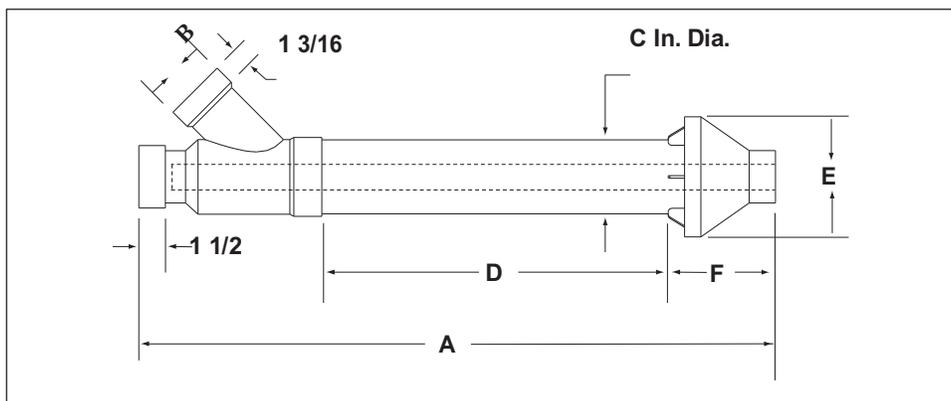
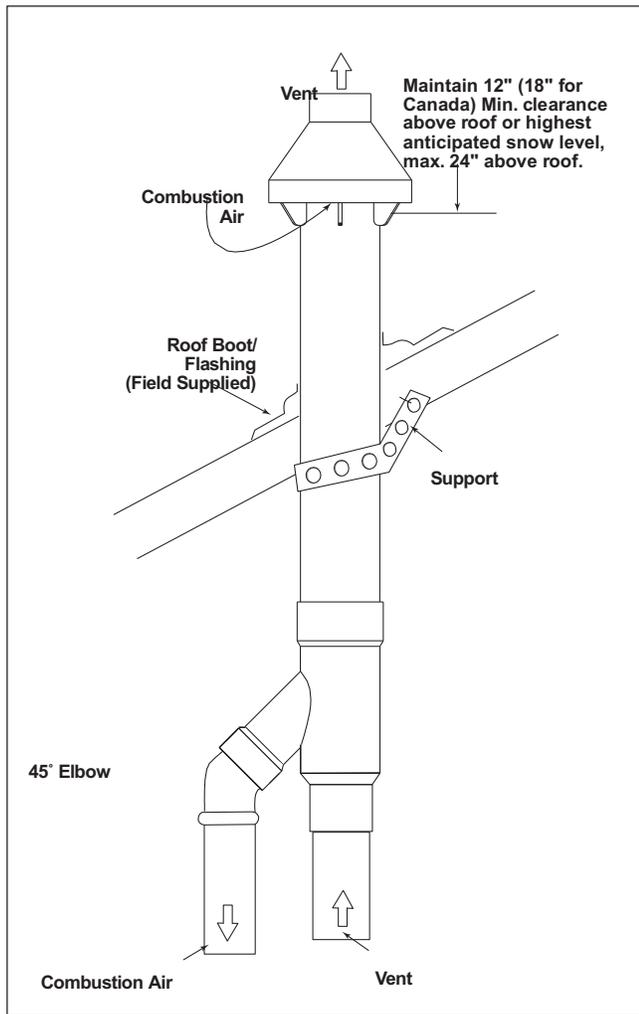

Figure 2. Dimensions
Figure 3. Roof Installation
4. Install cemented Y concentric fitting and pipe assembly through structure's hole and field supplied roof boot/flashing (See Figure 3).
5. Secure assembly to roof structure as shown in Figure 3 using field supplied metal strapping or equivalent support material. NOTE: Ensure termination height is above the roof surface or anticipated snow level (12 inches in U.S.A. or 18 inches in Canada). If the assembly is too short to meet the height requirement, the 2 pipes supplied in the kit may be replaced by using the same diameter, field supplied SDR-26 PVC (D2241) pipe. Do not expand dimension "D" more than 60 inches (see figure 2)